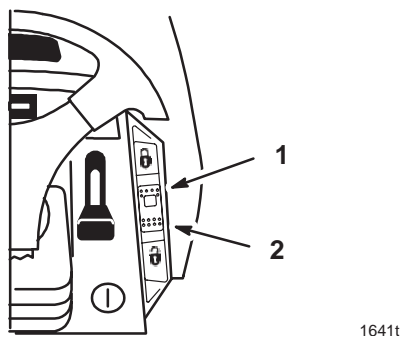

Figure 15
The cruise control is optional on some models. A 3 position: Set-Lock (spring loaded), On and Off-Unlock dash switch (Fig. 15) controls the engagement. Cruise control maintains the traction control position without foot pressure. Cruise control is intended for operation in the forward direction only. Do not use cruise control in reverse.
1. Begin driving tractor: Refer to Driving Forward or Backward, Page 17. While holding your foot steady on the traction control, push the cruise control switch (Fig. 15) to the “SET”–“LOCK” position.
1. While holding your foot steady on the traction control, move the cruise control switch (Fig. 15) to the “UNLOCK”–“OFF” position.